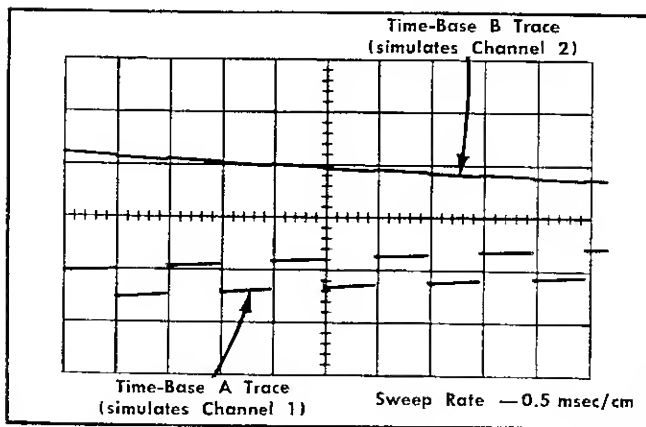

Fig. 2-1. Alternate-sweep slaving check.
7. Check that 0.5 cm of the Calibrator waveform is displayed when Time Base B is generating its sweep (lower trace), and that 1 trace width of the Calibrator waveform is displayed when Time Base B generates its sweep (upper trace). Fig. 2-1 shows the oscilloscope display.